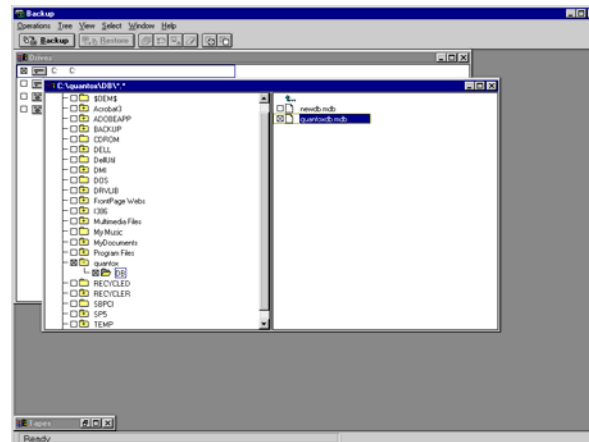

Figure B-30: Directory List
6. In the directory list, double-click the yellow folders to locate, for example, C:\Quantox\DB\QuantDB.mdb (Figure B-30).